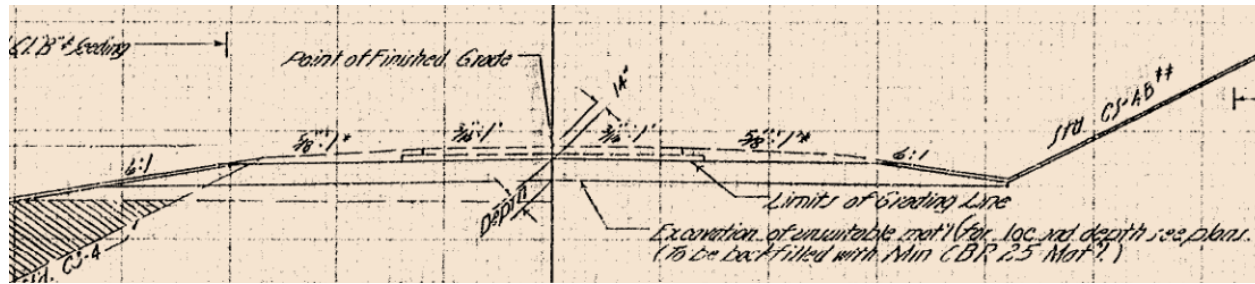

Figure 6: As Builts, Sept. 1968-Limits of Unsuitable Soil removal along Mainline
- Unsuitable Mainline Material: As-built plans from roadway plans dated Sept. 1968 show undercutting was required to reach suitable material for I-64 mainline construction (See Figure 6).